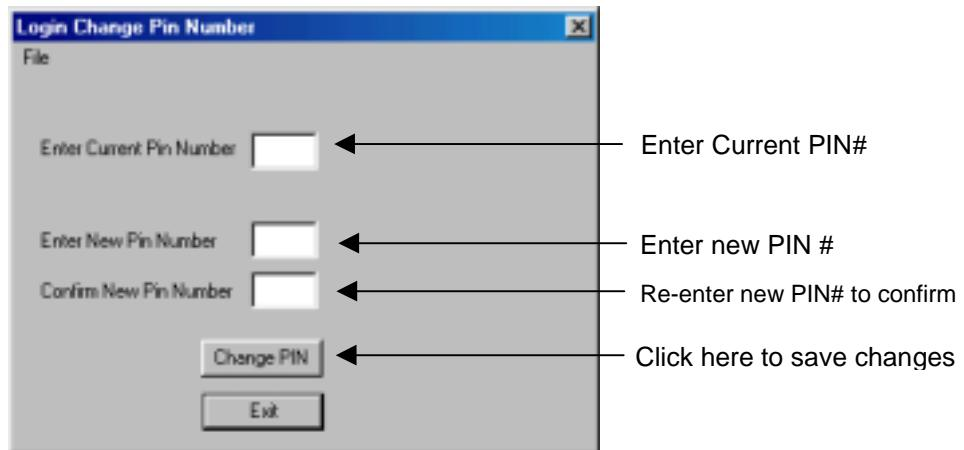

Figure 4.9 Changing a PIN Number
2. In the first field enter the current PIN (Figure 4.9).
3. In the middle and bottom fields, enter and confirm the new PIN (Figure 4.9).
4. Click the Change PIN Button (Figure 4.9).